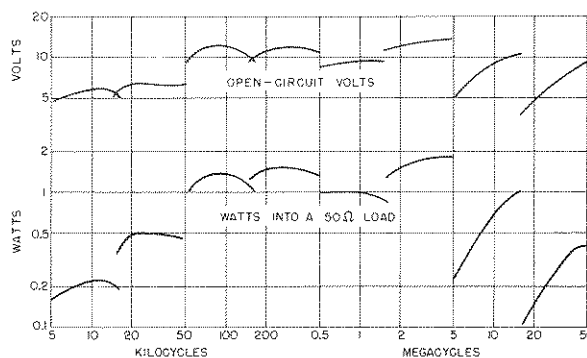

Figure 2. Typical Output Characteristics of Bridge Oscillator.
2.3 OUTPUT CHARACTERISTICS. Output characteristics of the Bridge Oscillator are as shown in Figure 2.